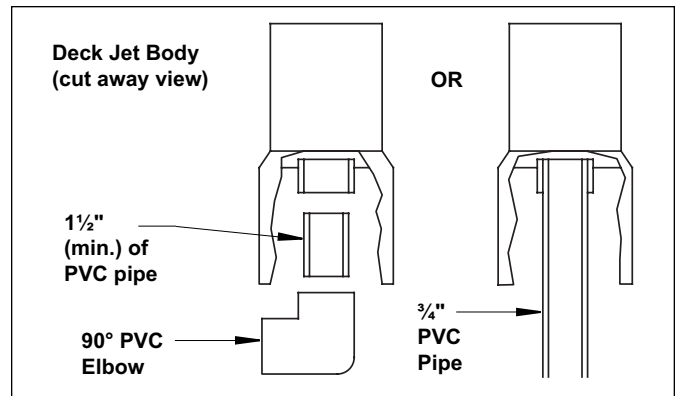

Figure 2. 90° Elbow Installation
4. The Jet Body has an opening on the side to allow for a ¾", 90° PVC elbow and still sit level on the ground. Cut the desired length of ¾" PVC pipe (see Figure 2). Glue the cut pipe length into the 90° elbow.